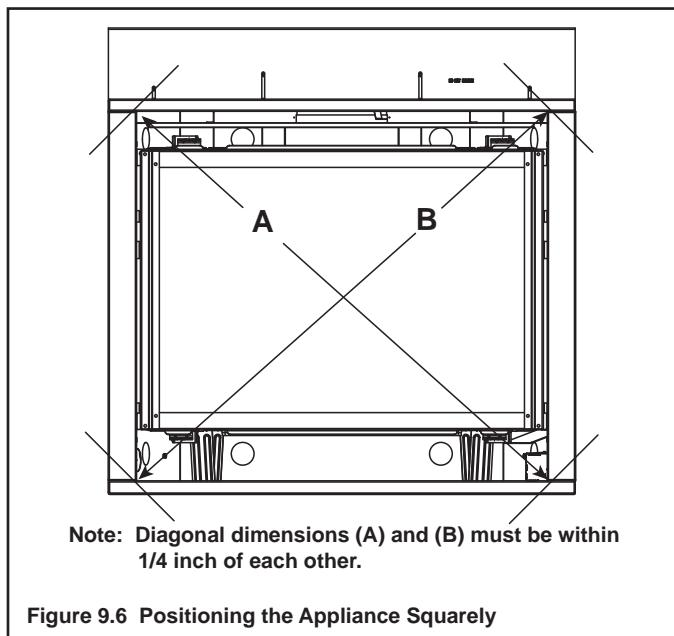

Figure 9.6 Positioning the Appliance Squarely
- "Square" the unit by securing diagonal dimensions to within 1/4 inch of each other. See Figure 9.6.